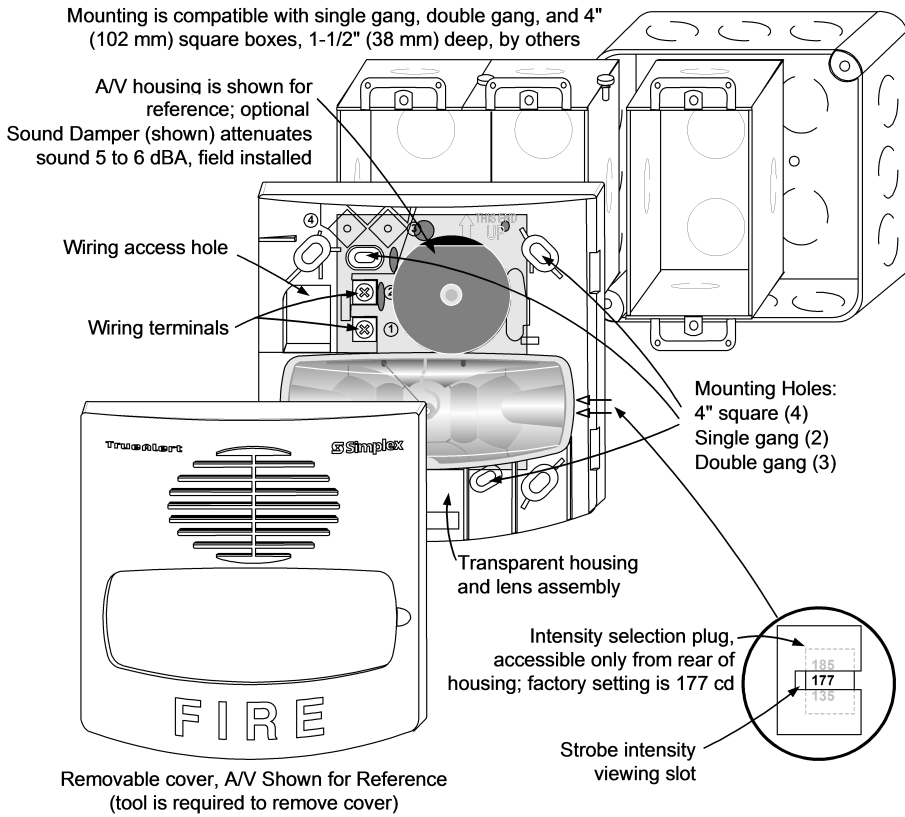

Figure 2: Installation reference, surface or semi-flush mounting
**Note:** Figure 2 shows optional 4905-9838 sound damper.